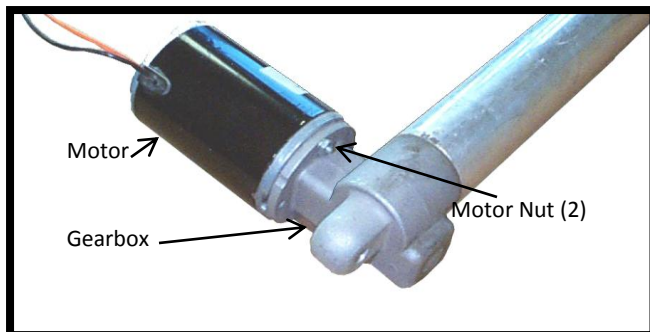

Figure: 39 Motor to Gearbox Nuts/Lockwashers
2. With a 3/8 in. wrench, remove the two nuts/ lockwashers that hold the motor to the gearbox (Figure 39).